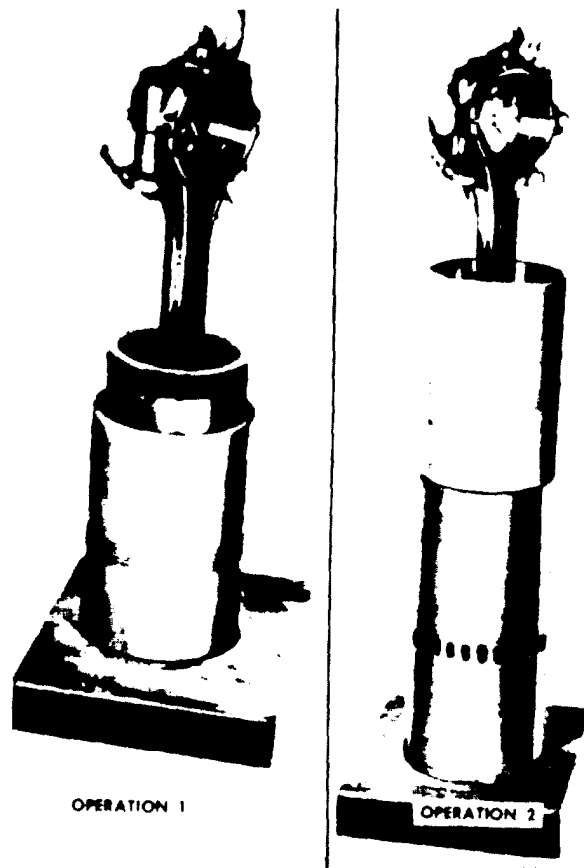

Figure 11B-138. Installing Piston in Cylinder Liner
4. Start the top of the piston straight into the ring compressor. Then push the piston down until it contacts the wood block (operation 1 of Figure 11B-138).
5. Place the ring compressor and the piston and connecting rod assembly on the liner so the numbers on the rod and cap are aligned with the matchmarks on the liner (operation 2 of Figure 11B-138 on page 11B-89).
The numbers on the side of the connecting rod and cap (Figure 11B-139) identify the rod with the cap and indicate the particular cylinder in which they are used. If a new service connecting rod is to be installed, the same identification numbers must be stamped in the same location as on the connecting rod that was replaced.